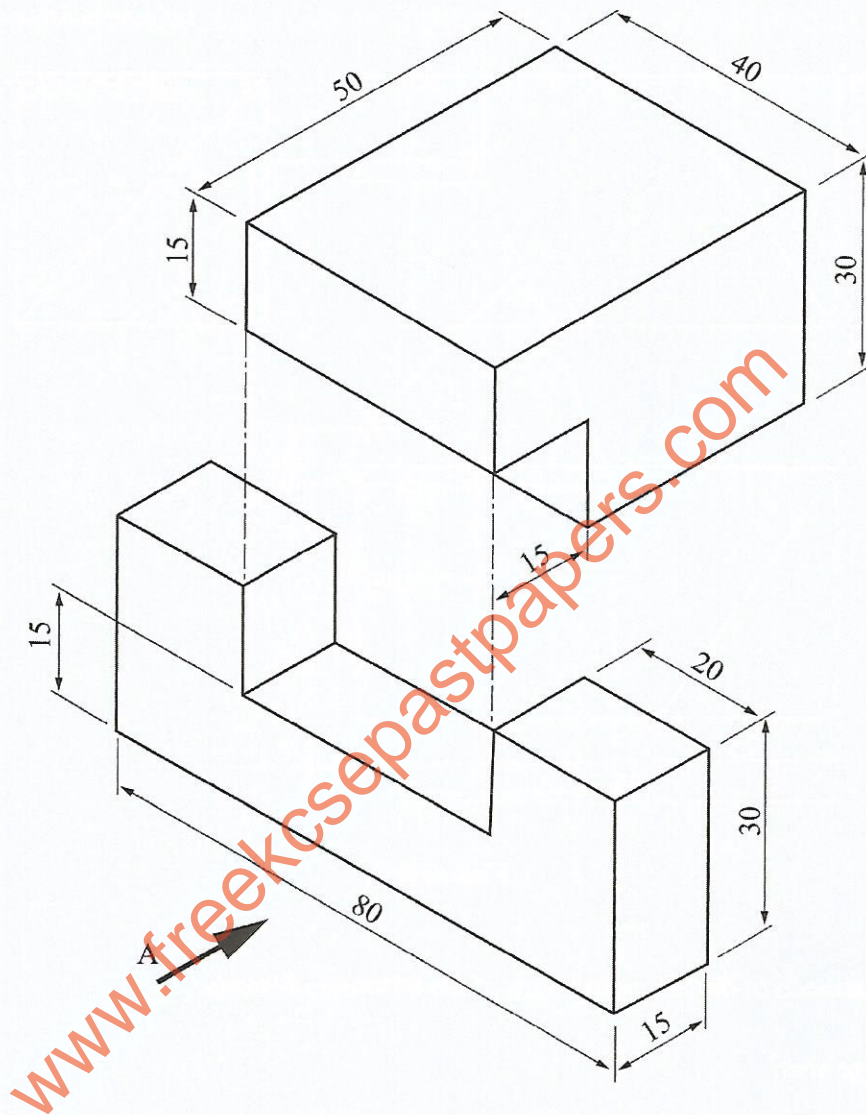

Figure 4
10. **Figure 4** shows an exploded view of a joint. Assemble the parts and draw full size the three orthographic views of the joint, in third angle projection. (6 marks)